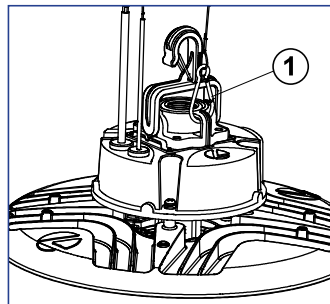

Figure 2
1.2 Suspend fixture with chain or cable securely attached to fixture Hook. Note: after chain or cable has been attached, verify that the Hook Spring clip has closed. Once the fixture is suspended, attach safety cable (1) not provided to opening on driver housing and secure other end of cable to permanent structure. (See Figure 2).